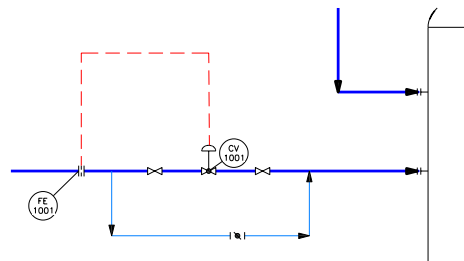

Figure 2-68 Electric signal created on the feed line
- Similarly, create an electrical signal on the pipe connecting the vessel, as shown in Figure 2-68.